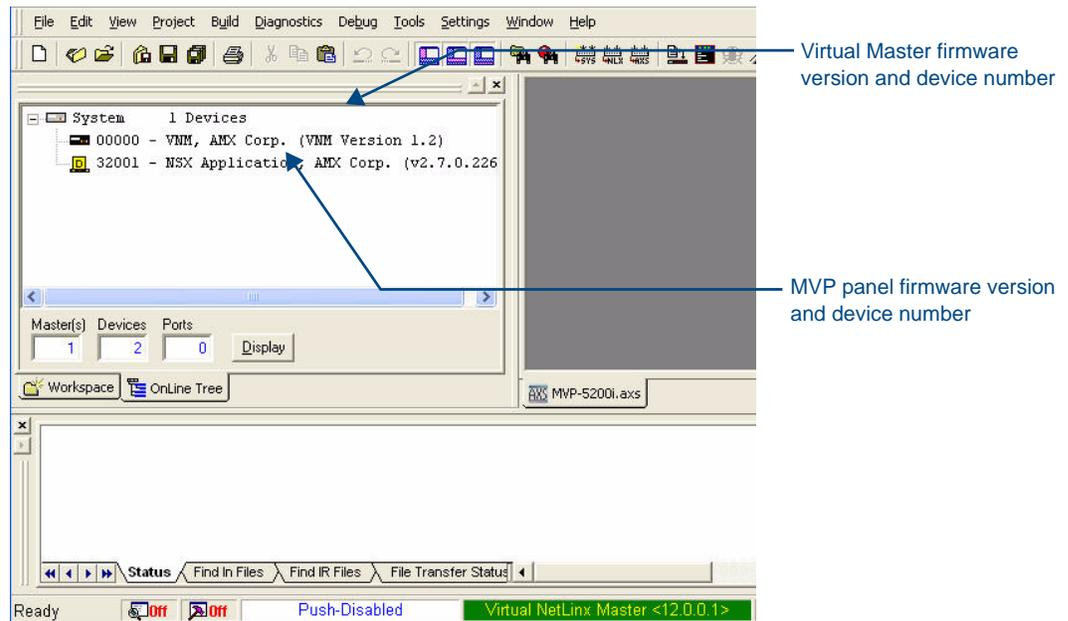

FIG. 101 NetLinX Workspace window (showing panel connection via a Virtual NetLinX Master)
3. After the *Communication Verification* dialog window verifies active communication between the Virtual Master and the panel, click the **OnLine Tree** tab in the Workspace window (FIG. 101) to view the devices on the Virtual System. *The default System value is 1.*
- Right-click on the System entry (FIG. 101) and select **Refresh System** to re-populate the list. Verify the panel appears in the **OnLine Tree** tab of the Workspace window.